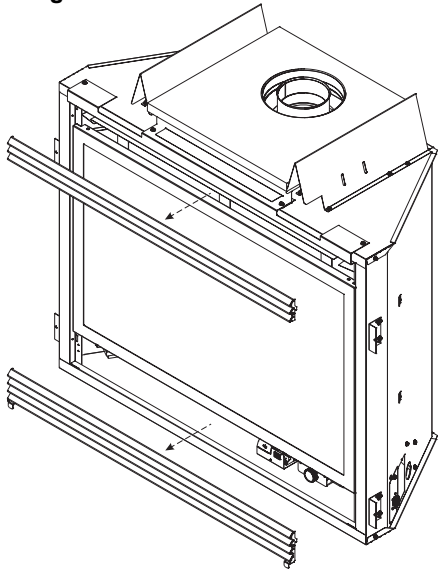

Figure 91
1. Remove top and bottom louvers by lifting up and pulling them out. See Figure 91.